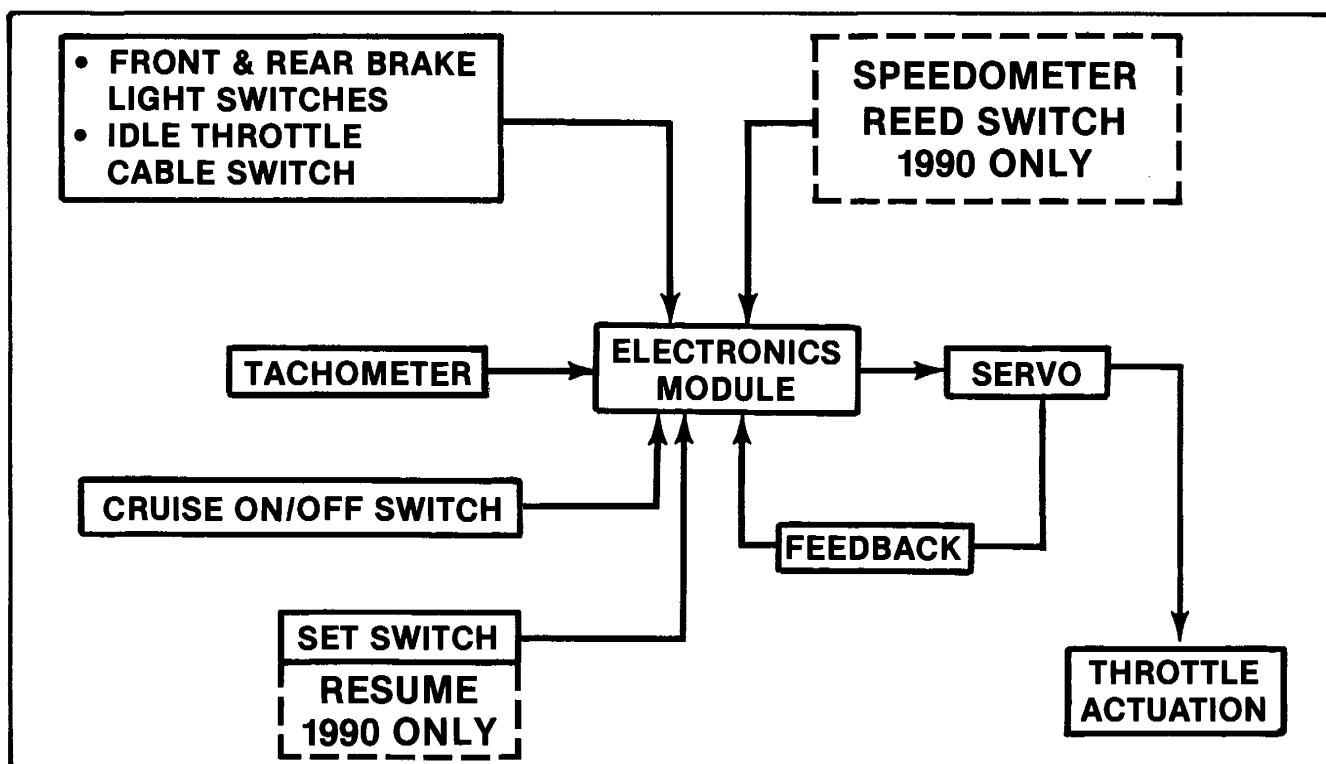

Figure 8-32. Cruise Control System Diagram
1. See Figure 8-32. To illustrate how the system works, the following steps explain how to engage, allow the cruise control to control speed and disengage the system.